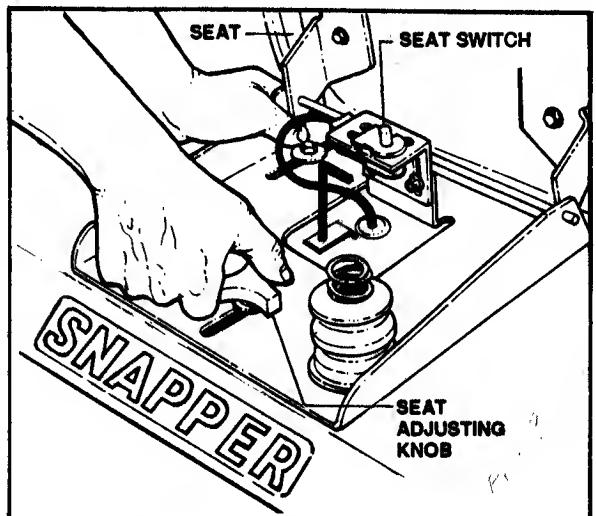

FIG. 8 - OPERATOR'S SEAT ADJUSTMENT
**FORE & AFT ADJUSTMENT:** Stop the tractor and tilt the seat forward. Loosen the ADJUSTING KNOB (on seat support) then lower the seat. Sit on the seat and depress the CLUTCH/BRAKE pedal while sliding the seat forward as rearward to the most comfortable position, then lock it into place by retightening the ADJUSTING KNOB. Refer to FIG. 8.